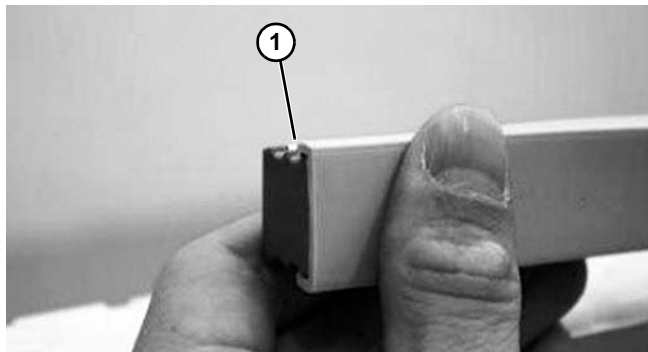

Figure 96
2. Make sure that all cover joints (**Figure 96, item 1**) are smooth, so that products do not get caught or damaged. Covers are not required on guide rail joints.